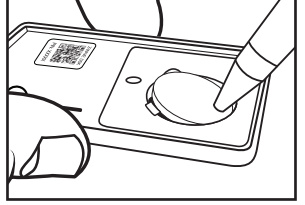

FIGURE 4
- While securely holding the sensor on a flat surface, press down on the lower edge of the battery with a pen (see Figure 4). This should lift the upper edge of the battery.